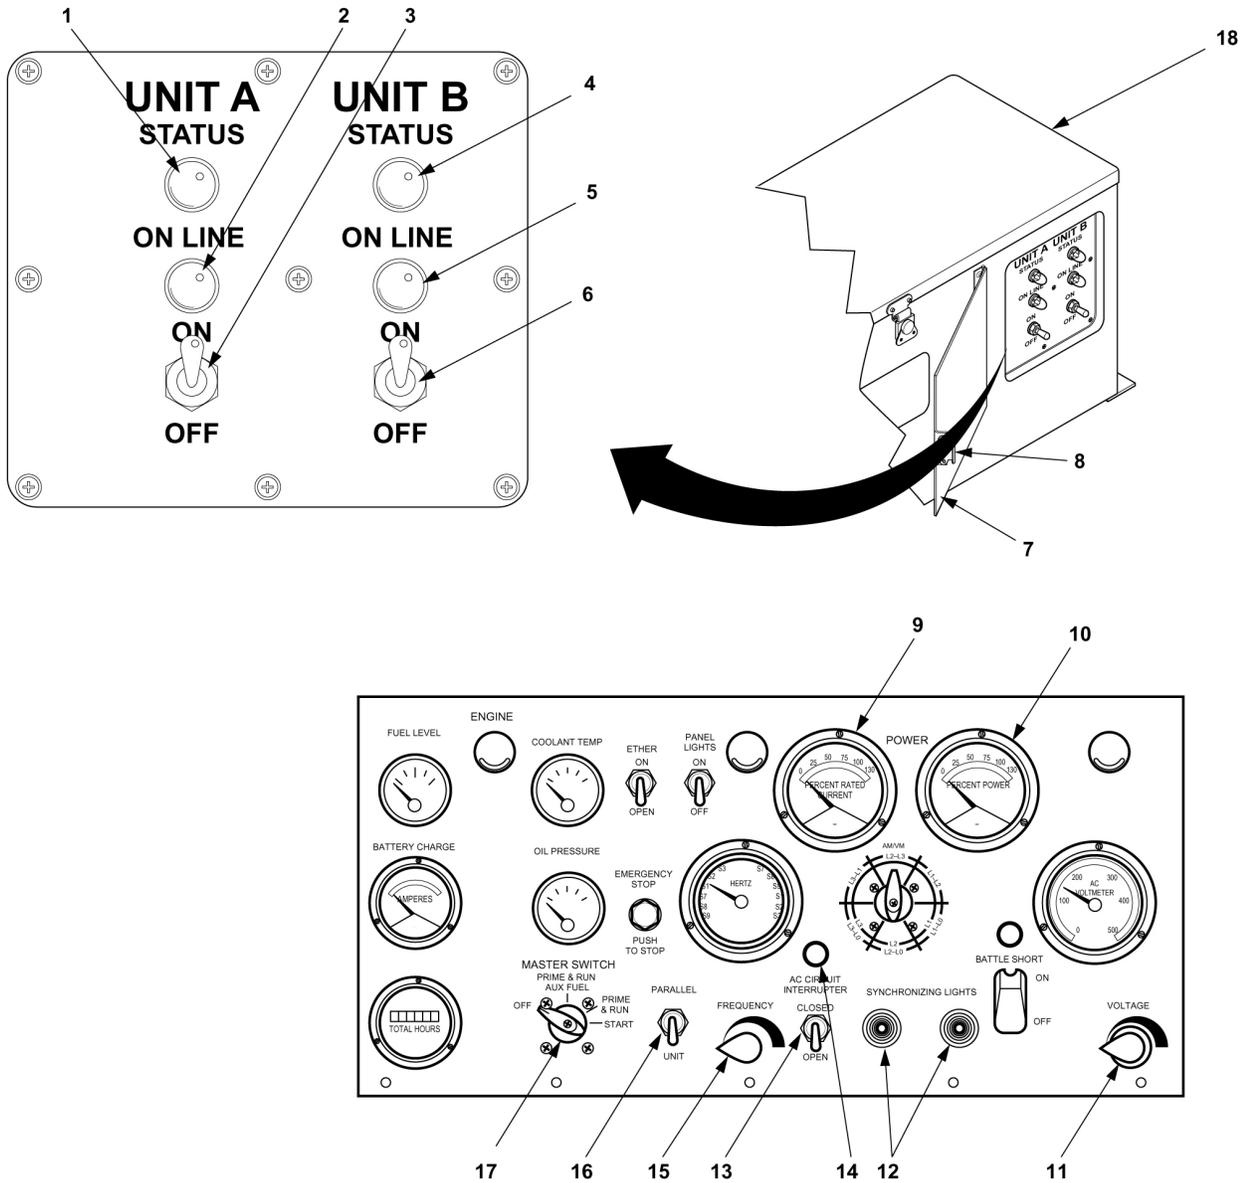
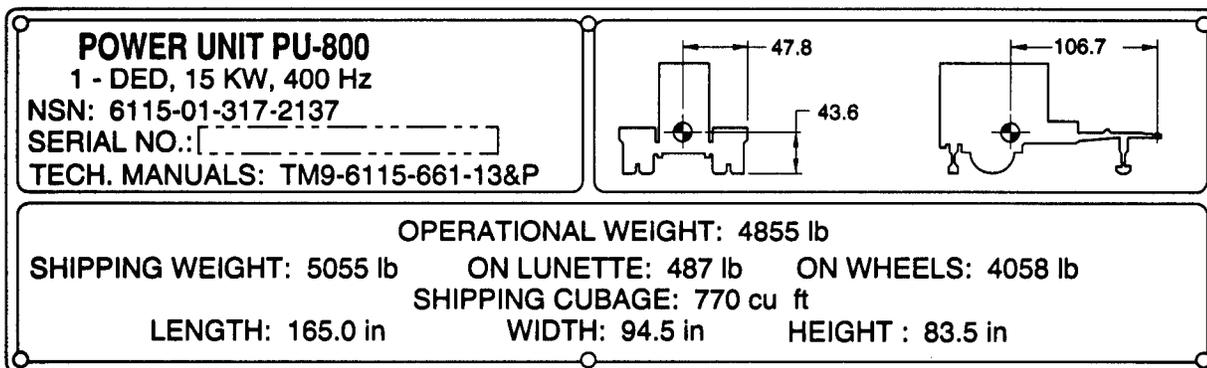

Figure 2-8. Power Plant Operation.
Figure 2-9. PU-800 Identification/Transportation Data Plate.
- b. Release the clamping catch (8, figure 2-8) and open the control panel access cover (7).
- c. To start the generator set, rotate the MASTER switch (17) to START position, until oil pressure reaches 25 psi and voltage reaches the appropriate required value.
- d. Release MASTER switch (17) to PRIME & RUN position.
- e. If external fuel system is being used, place MASTER switch (17) to PRIME & RUN AUX fuel position.
- f. Readjust VOLTAGE potentiometer (11) to required voltage.
- g. Readjust FREQUENCY potentiometer (15) to required frequency.
- h. Place AC CIRCUIT INTERRUPTER switch (13) in the closed position.
- i. Check switch box (18) to make sure Status light (1 or 4) is lit for the generator set just started.
- j. At the switch box (18), set the ON/OFF switch (3 or 6) to the ON position (ON LINE light should light). Generator is now supplying power to the load.
- l. On the Power Plant switch box (18), place the ON LINE switch (3 or 6) for the operating generator set in the OFF position.
- d. On operating generator set (generator Set 1) position UNIT-PARALLEL switch (16, figure 2-8) to PARALLEL position.
- f. At switch box (18), set generator Set 2 ON-OFF switch (3 or 6) to ON (switch box STATUS & ON-LINE lights for both generators should be lit).
- (1) Set UNIT-PARALLEL switch (16) to PARALLEL. Both SYNCHRONIZING LIGHTS (12) should be alternating on and off together.
- (2) Increase frequency until SYNCHRONIZING LIGHTS (12) blink together one or more times per second. The light may blink slower at some point before increasing.
- (3) Decrease frequency until SYNCHRONIZING LIGHTS (12) blink together once every 3-4 seconds.
- a. At the switch box (18, figure 2-8) for the set being taken off line, turn switch (3 or 6) to the off position.
- b. Set UNIT-PARALLEL switch (16) to UNIT on the remaining operating set.
- c. At the control panel of the generator set to be taken off line, position AC CIRCUIT INTERRUPTER switch (13) to the OPEN position until indicator (14) goes out. At switch box (18), STATUS and ON LINE lights for the generator shut down should be off.
- d. On the set being shut down, rotate MASTER switch (17) to OFF position.
- e. At the control panel of the shut down generator set, place the UNIT-PARALLEL switch (16) to UNIT.
**2-6.1 PU-800 Identification/Transportation Data Plate.** Refer to figure 2-9. This plate is located on the trailer body.